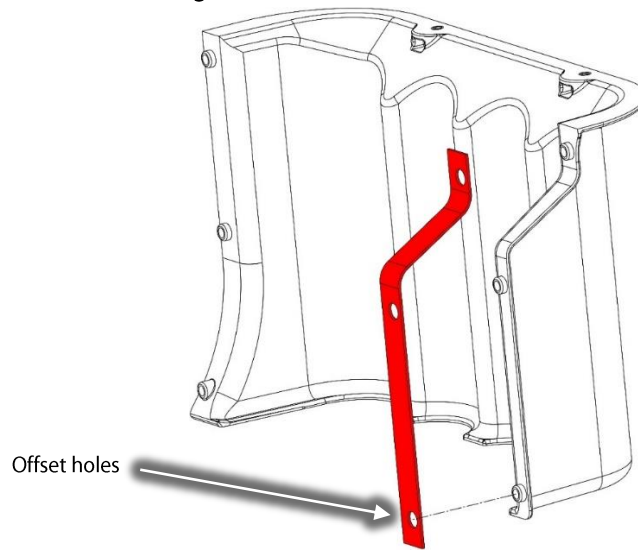

Figure 9 – Capacitor Cover Left Side Foam Installation
- Remove a small portion of the adhesive backing at the end and install the Capacitor Side Cover Sealing Foam Left. Refer to Figure 9.